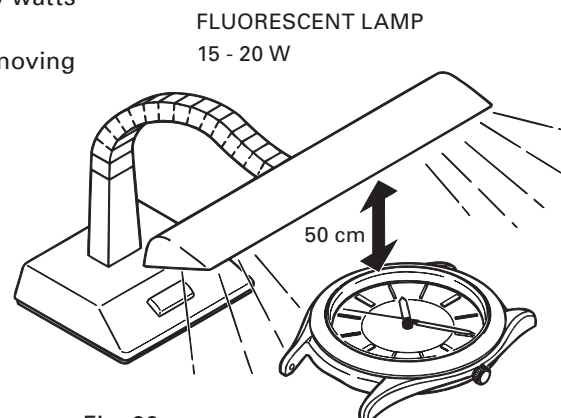

Fig. 29
- 1) Place the watch which stops working at a distance of 50 cm under the fluorescent lamp of 15 to 20 watts (Fig. 29).